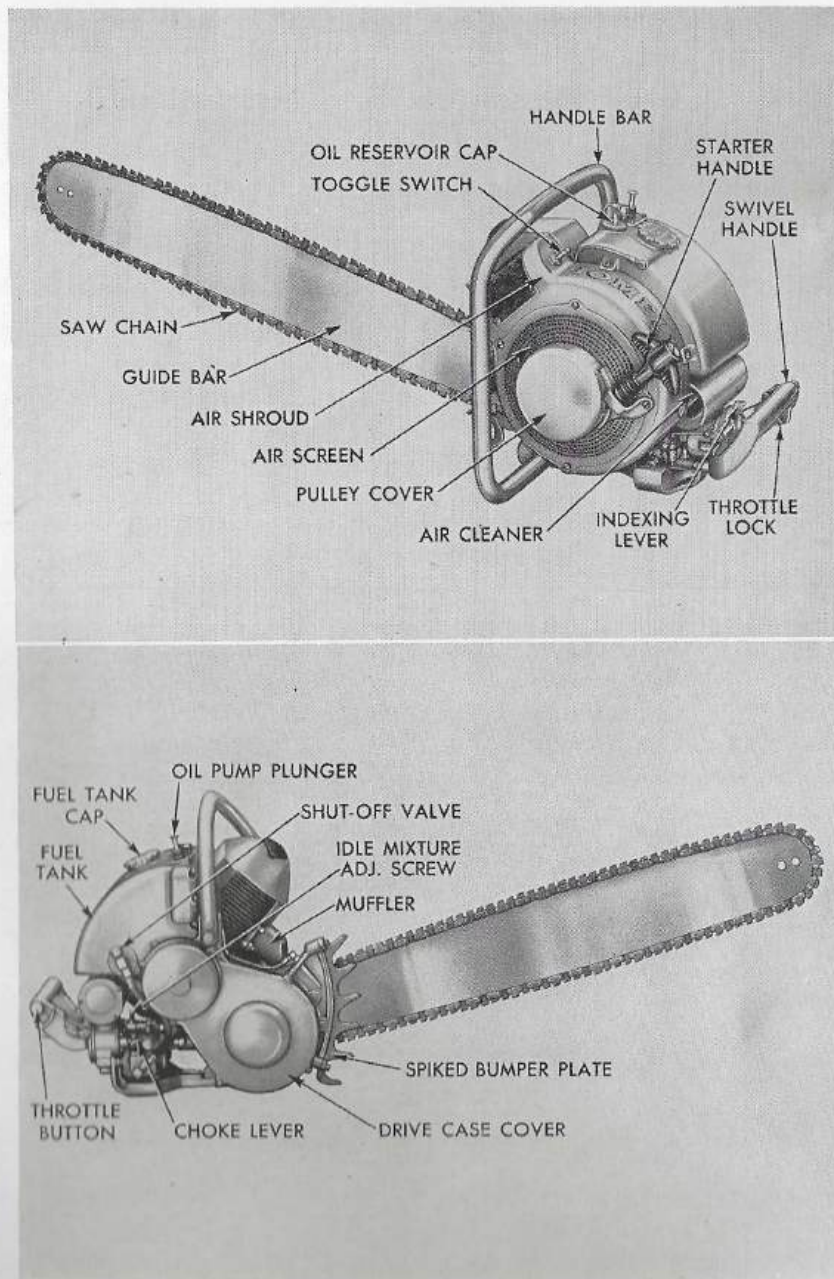

Figure 1—Homelite Gasoline Chain Saw — Model 26LCS-28
a. Starting (See Figure 1)
- (1) Push toggle switch to "ON" position.
- (2) Open the fuel shut-off valve all the way.
- (3) Put choke lever in "CHOKE" position.
- (4) Press throttle button all the way in with thumb and lock throttle open with throttle lock located on underside of swivel handle. Operate oil pump plunger 3 times to lubricate chain.
- (5) Be sure chain is clear of all obstructions before pulling starter, because chain will rotate with throttle wide open; chain will not rotate when engine idles.
- (6) Pull starter slowly until it engages; then pull rapidly. (Do not let starter handle snap back.) Repeat, if necessary, until engine starts.
(7) Slowly return choke lever to "RUN" position. If engine falters after starting, operate the choke lever at short intervals until engine warms up.
(8) Press throttle button to release throttle lock. When engine idles, the automatic clutch disengages chain drive. Automatic governor keeps engine from over speeding.
(9) To start hot engine lock throttle open — don't choke.